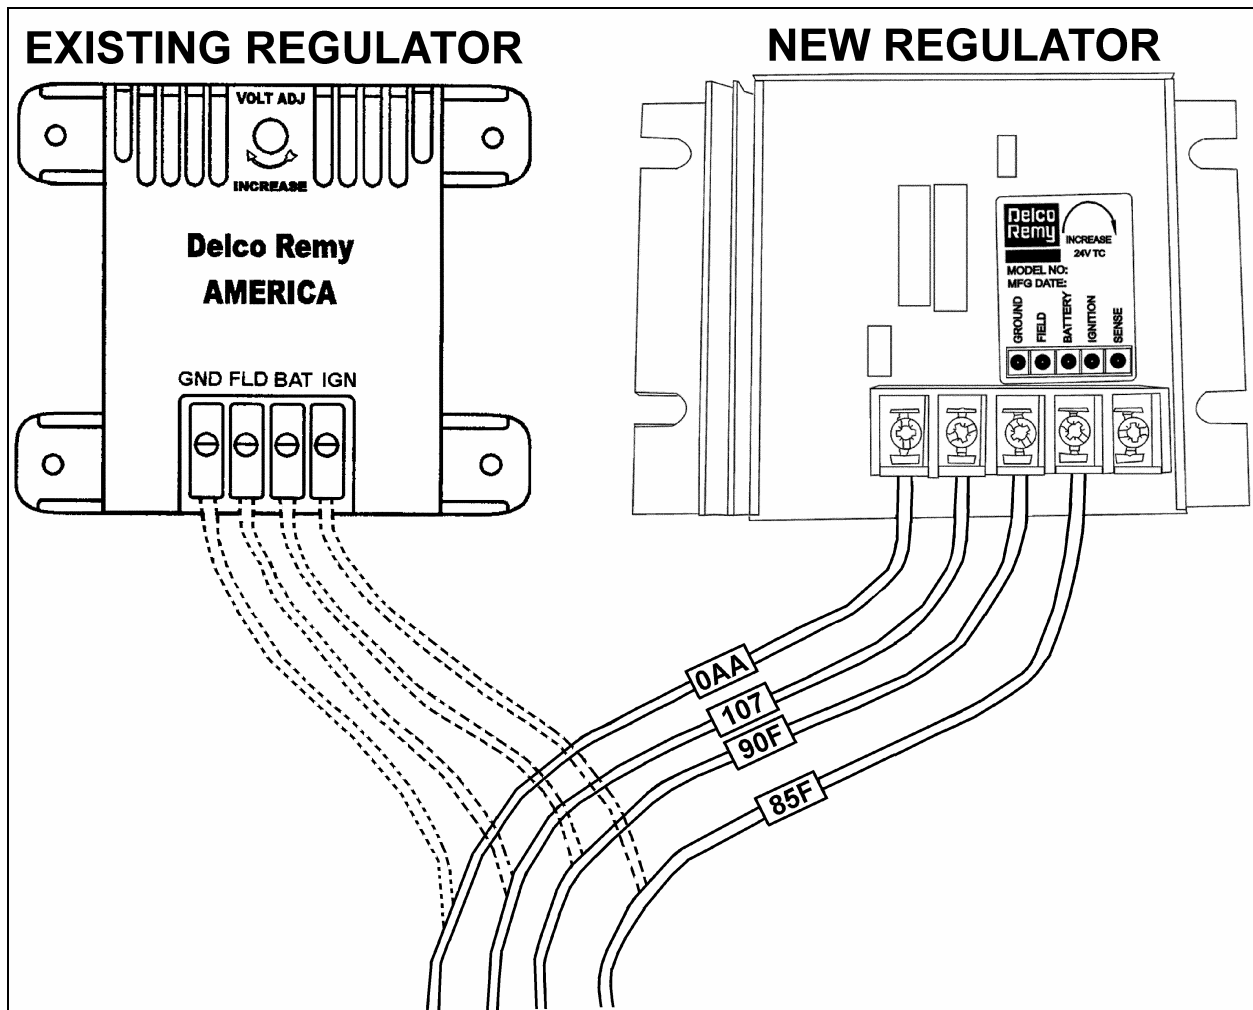

FIGURE 2
1. Identify at "GND" terminal of existing regulator, the black wire identified "0AA", disconnect it then reconnect to "GROUND" terminal on new regulator. Tighten terminal screw to 12-15 Lbf-in (Refer to figure 2).
2. Identify at "FLD" terminal of existing regulator, the red wire identified "107", disconnect it then reconnect to "FLD" terminal on new regulator. Tighten terminal screw to 12-15 Lbf-in (Refer to figure 2).
3. Identify at "BAT" terminal on existing regulator, the red wire identified "90F", disconnect it then reconnect to "BAT" terminal on new regulator. Tighten terminal screw to 12-15 Lbf-in (Refer to figure 2).
4. Identify at "IGN" terminal on existing regulator, the red wire identified "85F", disconnect it then reconnect to "IGN" terminal on new regulator. Tighten terminal screw to 12-15 Lbf-in (Refer to figure 2).